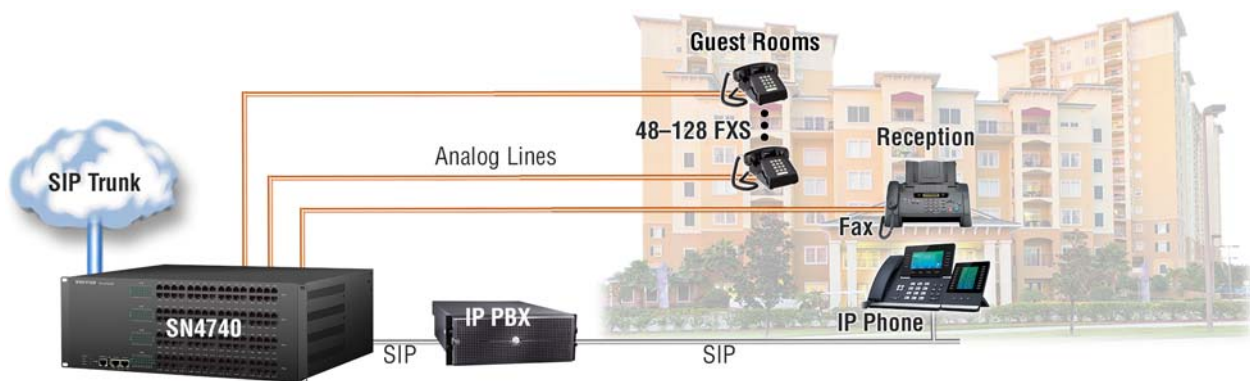

Figure 7. Hospitality venues: hotels, motels, etc.
- Hospitality venues such as hotels, motels, etc. (see figure 7 on page 22)